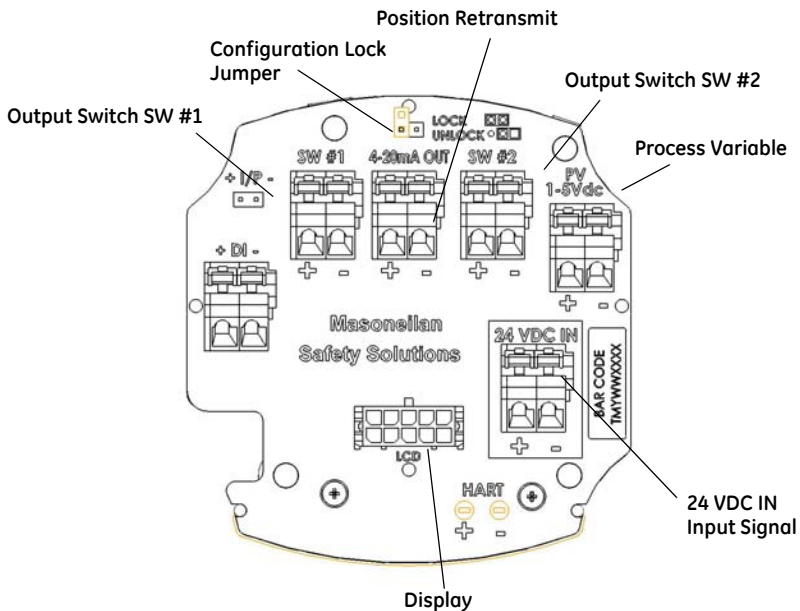

Figure 16 Connections to DSD Electronics Module (via Terminal Board)
1. Loosen the four (4) cover screws and remove the cover of the SVI II ESD.
2. Connect the \pm terminals of the 24 VDC power source to the 24 VDC ESD IN connector (on the terminal board). The voltage + must connect to the terminal board connector +, and the same for -. See Figure 16 on page 49.